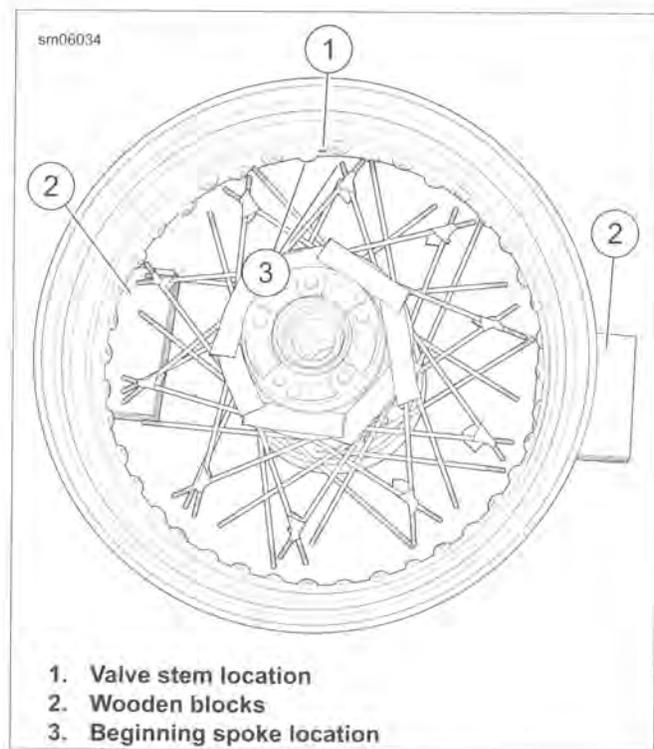

Figure 2-21. Place Rim
- See Figure 2-21. The valve stem hole location (1) is centered on the rim so rim orientation is not important.
8. See Figure 2-21. Center the rim over the hub/spoke assembly and support on wooden blocks (2) approximately 1.5 in (38.1 mm) thick. Rotate so valve stem hole (1) is near a pair of taped spokes.
11. See Figure 2-21. Remove tape from each upper bundle and fan the spokes out toward the rim.